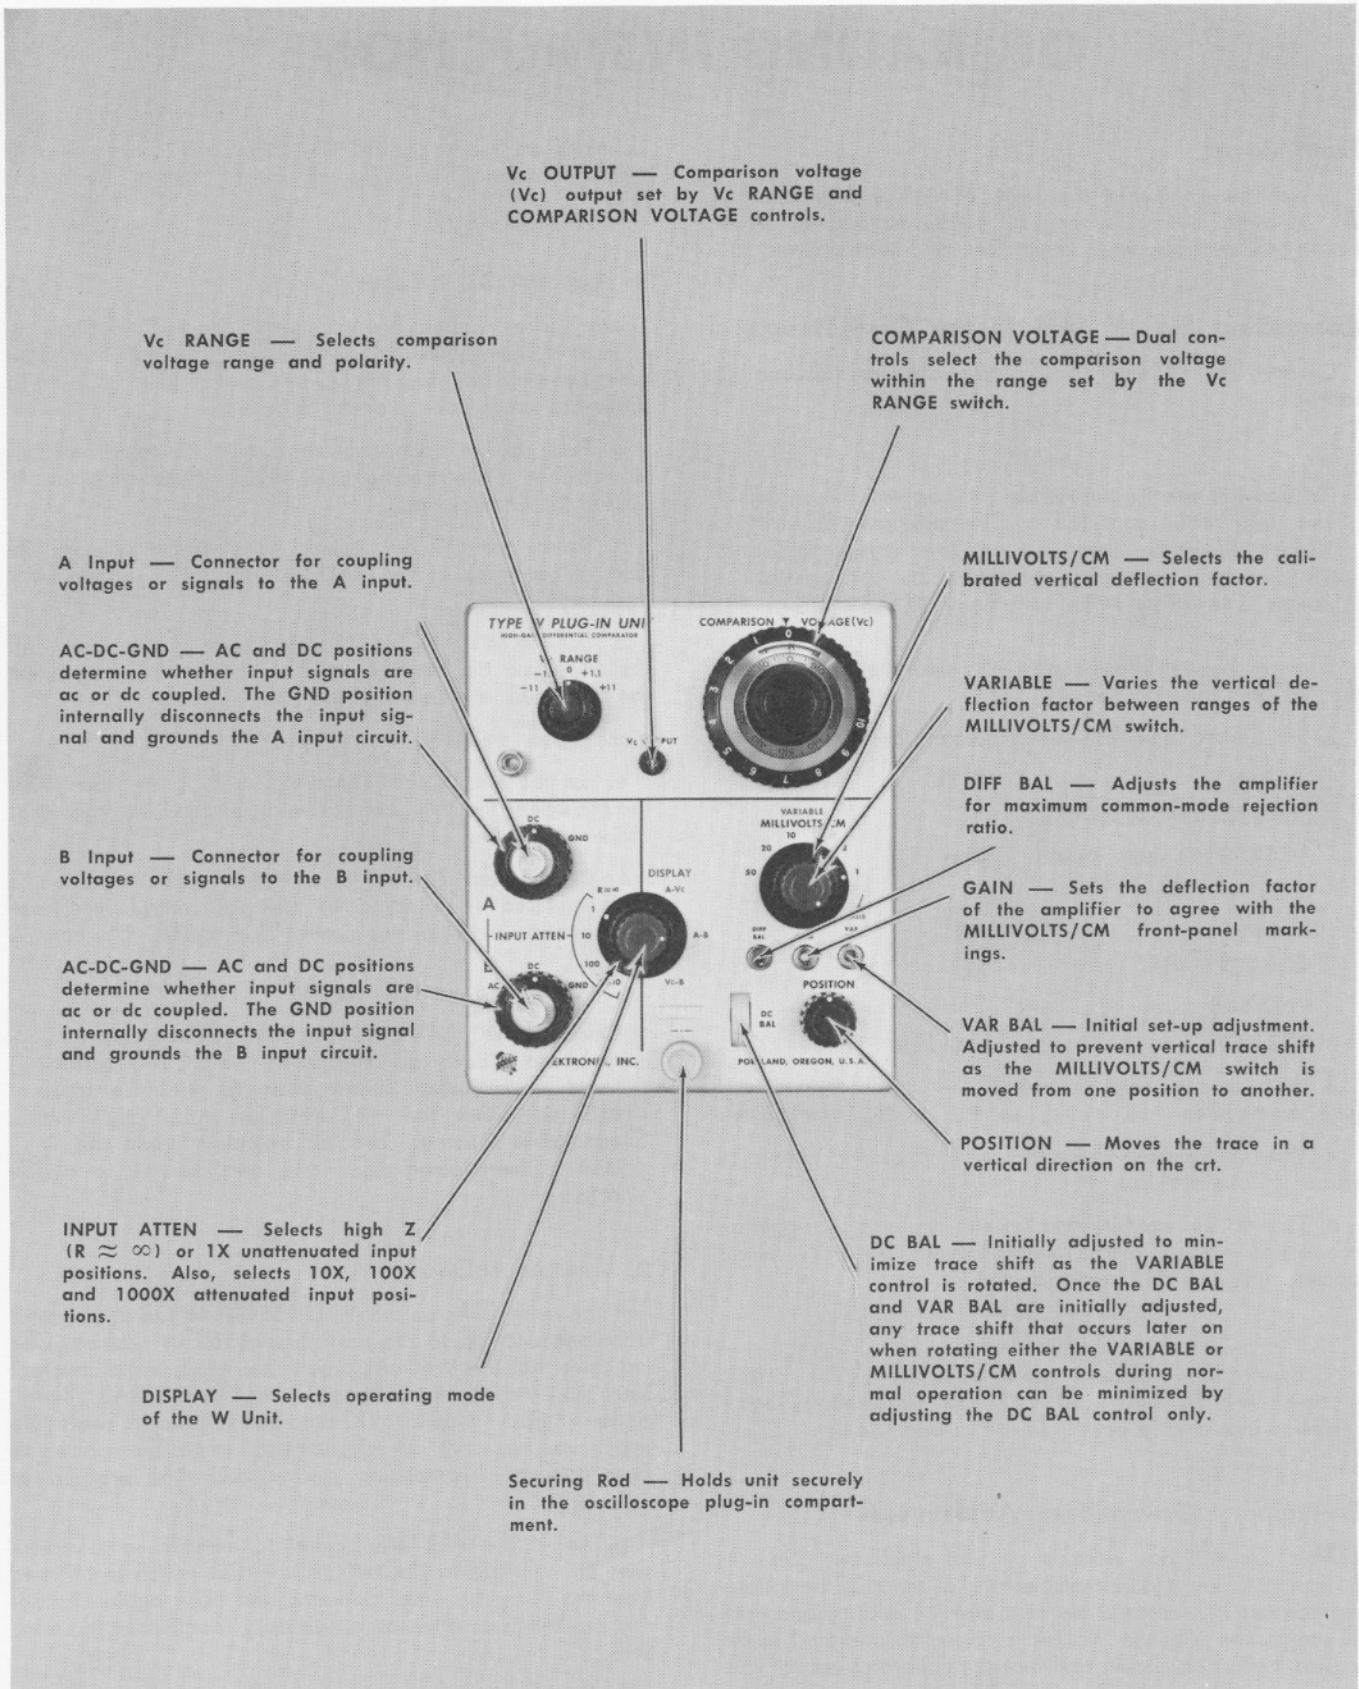

Fig. 2-1. Functions of front-panel controls, input connectors, and Securing Rod.
A front-panel view of the Type W Unit is shown in Fig. 2-1. In addition, a brief functional description is given of the front-panel controls, input connectors, and securing rod.
Any vertical shift of the trace when the VARIABLE control is rotated with the AC-DC-GND switches set to GND, indicates need for adjusting the DC BAL control (see Fig. 2-1). To make this adjustment, proceed as follows:
c. Set the MILLIVOLTS/CM switch to 5. If the trace is off the crt, adjust the VAR BAL control (see Fig. 2-1) to position the trace near the center of the crt.
The GAIN adjustment (see Fig. 2-1) should be checked periodically to assure correct vertical deflection factors. The adjustment can be made using the oscilloscope calibrator as the signal source. If greater accuracy is needed, a signal source with more precise amplitude accuracy can be used.
c. Ignoring the positive and negative spikes, adjust the DIFF BAL control (see Fig. 2-1) to eliminate any square-wave response; that is, to obtain a straight-line appearance of the trace.